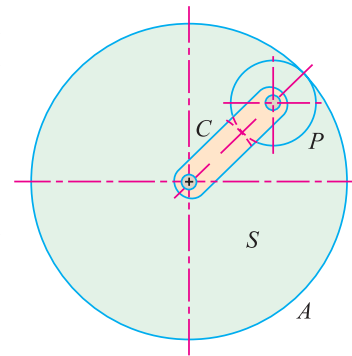

Fig. 34.13. Compound epicyclic gear train.
A compound epicyclic gear train consists of three toothed wheels known as the sun wheel (S), planet wheel (P) and annular wheel A as shown in Fig. 34.13. The axes of sun wheel and planet wheel are connected by an arm C by pin connections. The planet wheel meshes with the sun wheel as well as the annular wheel.